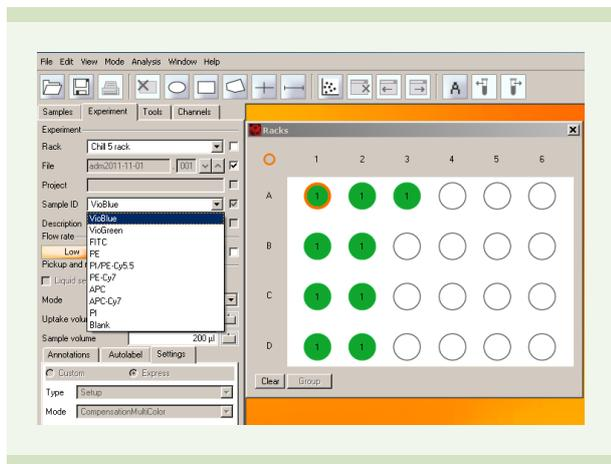

Figure 3: MACSQuantify™ Software will perform VioBlue auto-compensation on sample A1.
- Double-click on sample position A1 to activate it (circle with orange highlight). From the **Sample ID** drop-down menu, assign the relevant fluorochrome for compensation. In this example, cells in sample tube A1 were labeled with VioBlue (figure 3).